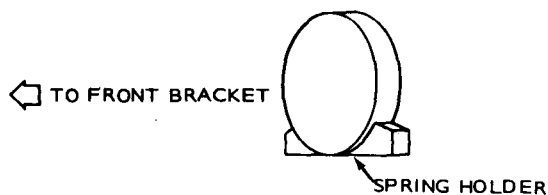

FIGURE 58
5. Place the lever spring and the spring holder into the front bracket with the direction shown in Figure 58.